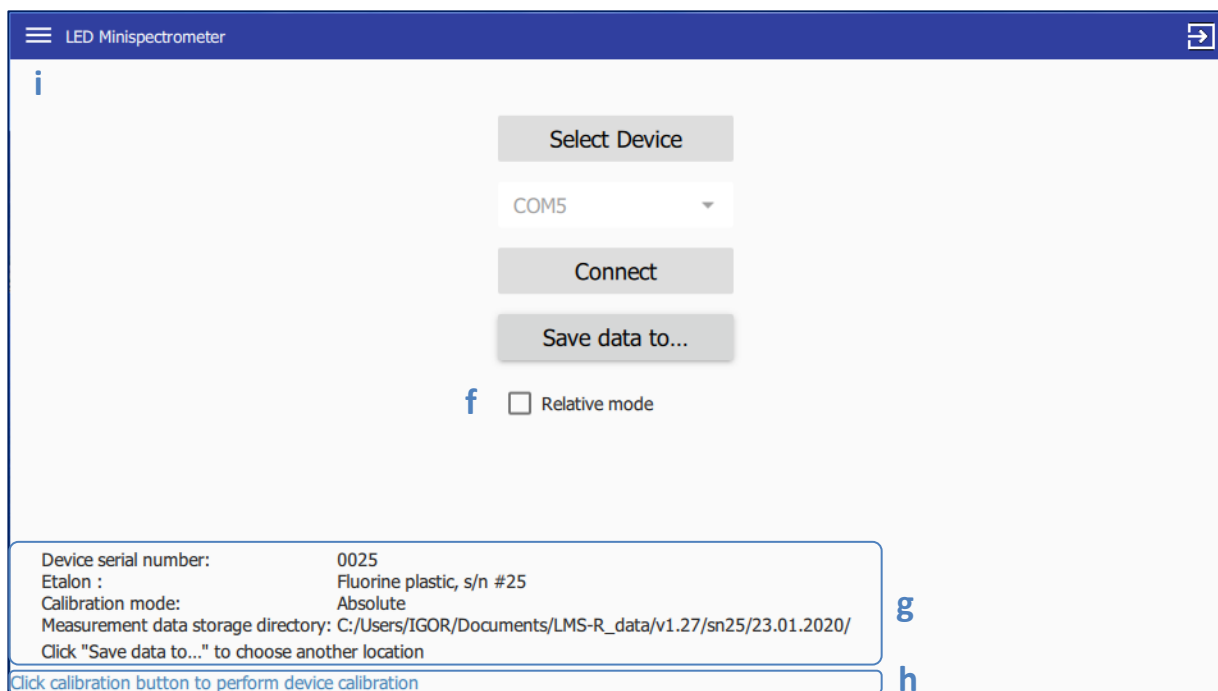

Рис.3. Выбор режима измерений (абсолютный или относительный).
3.6 Absolute measurement mode is set by default. If needed, relative measurement mode can be chosen by checking the checkbox “Relative mode” (fig.3, f).
Main settings are done, information about them will be displayed in “Settings” menu (fig.3, g):
In the message bar at the bottom of the window (fig.3, h) you will see information about the program actions or user prompts.
- Click Menu button on the left top corner of the program window (fig.3, i), you will see the following menu options: